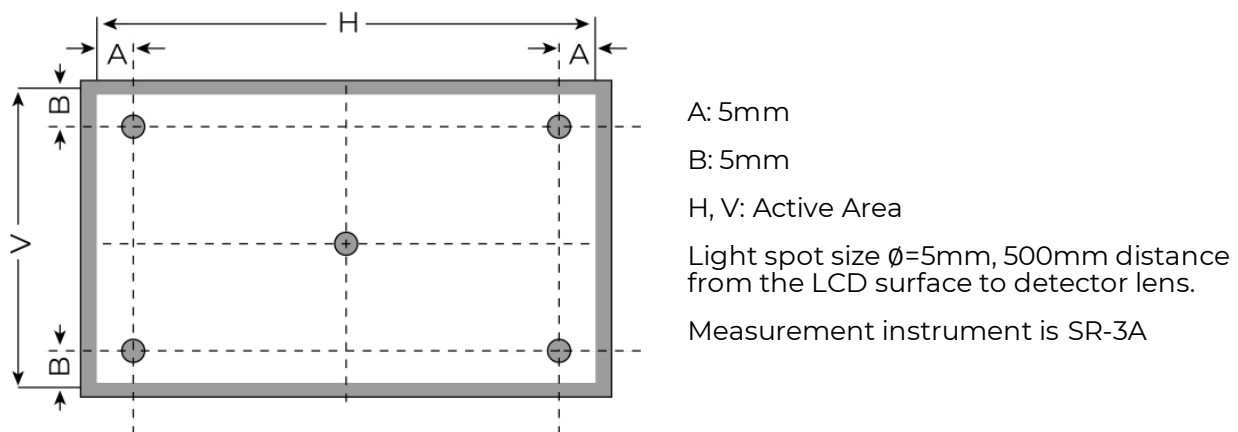

Figure 3. Measuring method for Contrast ratio, surface luminance, Luminance uniformity, CIE (x, y) chromaticity
| Contrast Ratio          | Cr             |                                                              | 800   | 1000  | -     | ---               | FIG 3. | 1, 7 |
| CIE (x, y) Chromaticity | Rx             | $\theta=0^\circ$$\phi=0^\circ$$T_a=25^\circ\text{C}$ | 0.575 | 0.615 | 0.655 | -                 | FIG 3. | 5, 7 |
**Note 1.** Contrast Ratio (CR) is defined mathematically as below, for more information see Figure 3.
**Note 2.** Surface luminance is the LCD surface from the surface with all pixels displaying white. For more information see Figure 3.
**Note 3.** The uniformity in surface luminance  $\delta$  WHITE is determined by measuring luminance at each test position 1 through 5, and then dividing the minimum luminance of 5 points luminance by maximum luminance of 5 points luminance. For more information see Figure 3.